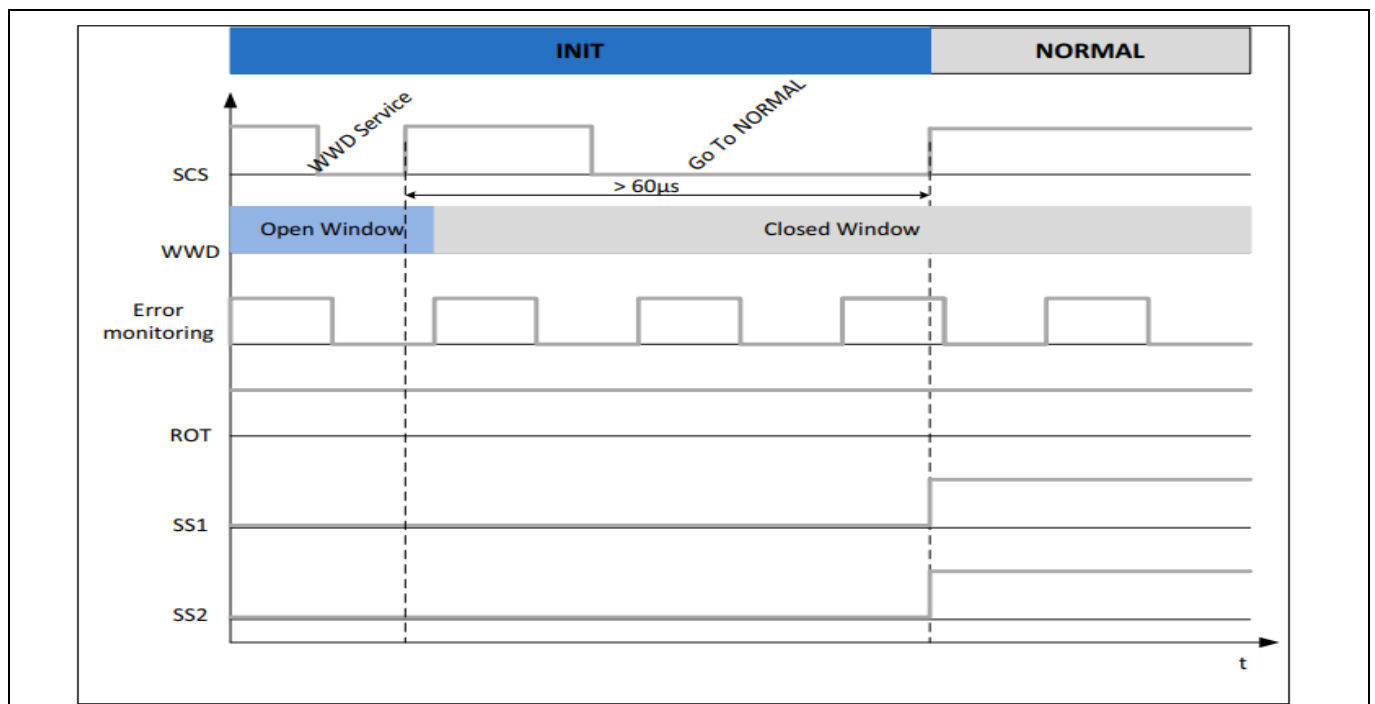

Figure 3 Transition from INIT to NORMAL state
- ERR monitor needs to be serviced with a valid signal (minimum 3 periods) or disabled within the INIT timer. The error valid signal is described in Table 18 of TLF3558x datasheets and exemplified by the square wave, “Error monitoring” as shown in Figure 3
- If the functional watchdog is activated, a valid FWD triggering needs to be provided according to the definition explained in TLF3558x datasheets. Only window watchdog, WWD, not FWD, is shown in Figure 3